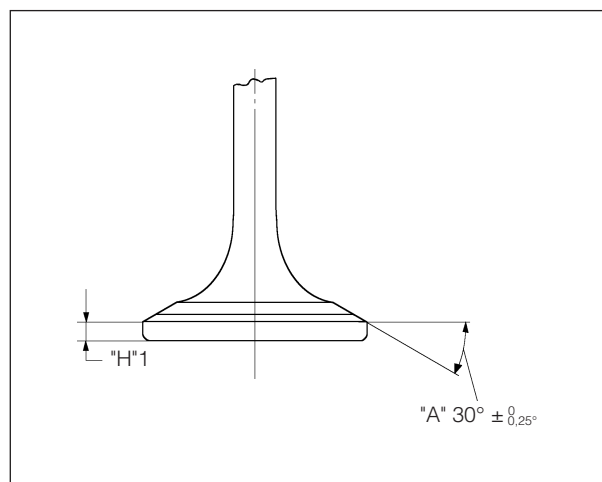

Fig 2. Valve Spindle
- 3) Check the height "H"1 after completing the grinding, see fig 2.